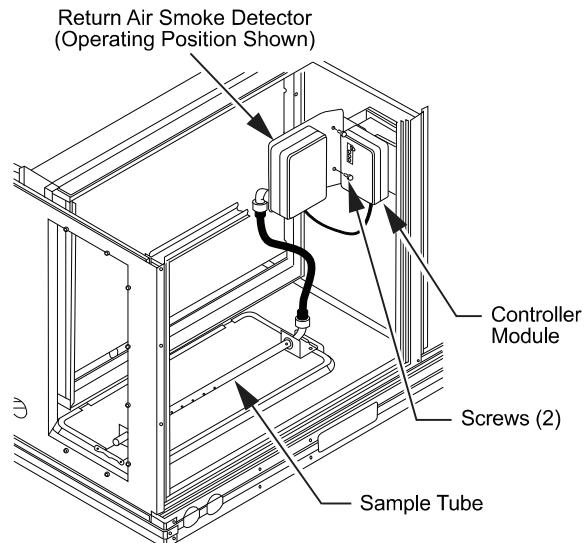

Fig. 42 — Return Air Smoke Detector Operating Position
3. Rotate the detector plate so the sensor is facing outwards and the sampling tube connection is on the bottom. See Fig. 42.